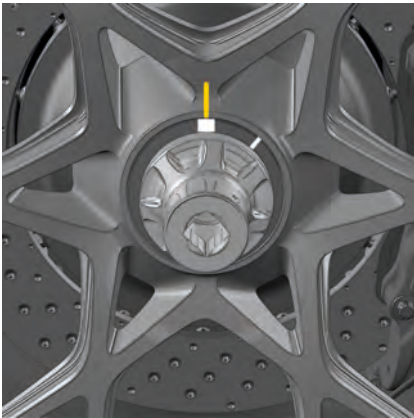

Fig. 215: Tightening the central bolt
4. Continue tightening the central bolt with the long lever until the **STOP** marking on the cover is aligned with the guide line (Fig. 215). The bolt is now securely tightened.